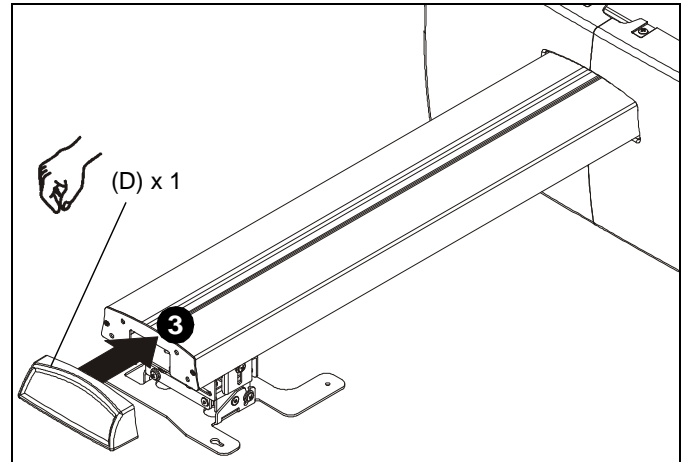

Figure 20
3. Add end cap (D) to end of short throw projector arm. (See Figure 20)